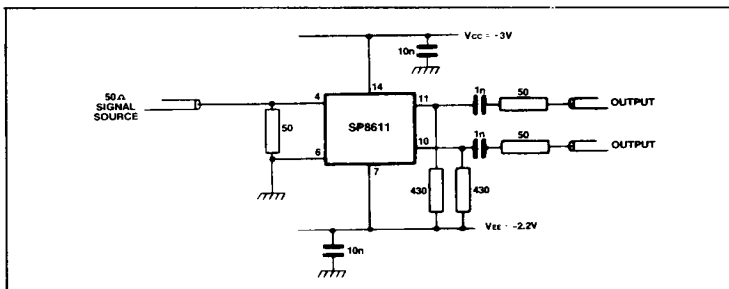

Fig.6 Circuit for using the input signal about earth potential
- These devices may be used with split supply lines and ground referenced input by means of the circuit of Fig. 6.